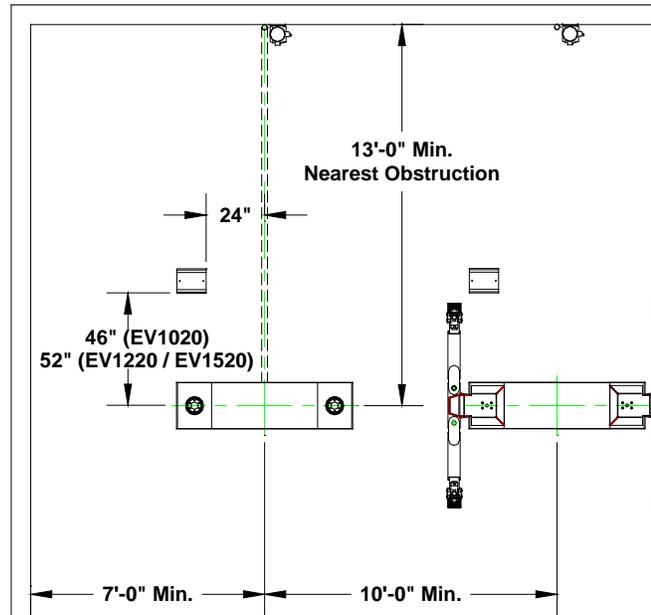

Fig. 1
Locate lift to allow plenty of working room on all sides. Allow room for workbenches at front of bay, aisles, lubrication equipment or other obstructions. Check overhead clearances. Ordinarily 12 feet is ample for automobiles. Observe the recommended minimums in Fig 1.
2. Using a chain hoist and tripod, fork lift, crane, etc. for lifting; lower the lift / containment assembly in the excavation being sure the PVC inlet hole is toward the power unit, until the top of the assembly is 1/8" to 1/4" above finished floor level and aligned with the previously determined center lines. Refer to Figures 1 and 3.
26. Locate and install the wheel-spotting pan using the anchors provided. Refer to Figure 1. These are recommended dimensions only and may vary according to the fleet of vehicles being serviced.
Be sure the adapters are in the lowered position and the arms are parked as seen in Figure 1 before attempting to drive on or off of the lift. Failure to do so may damage the adapters or vehicle.